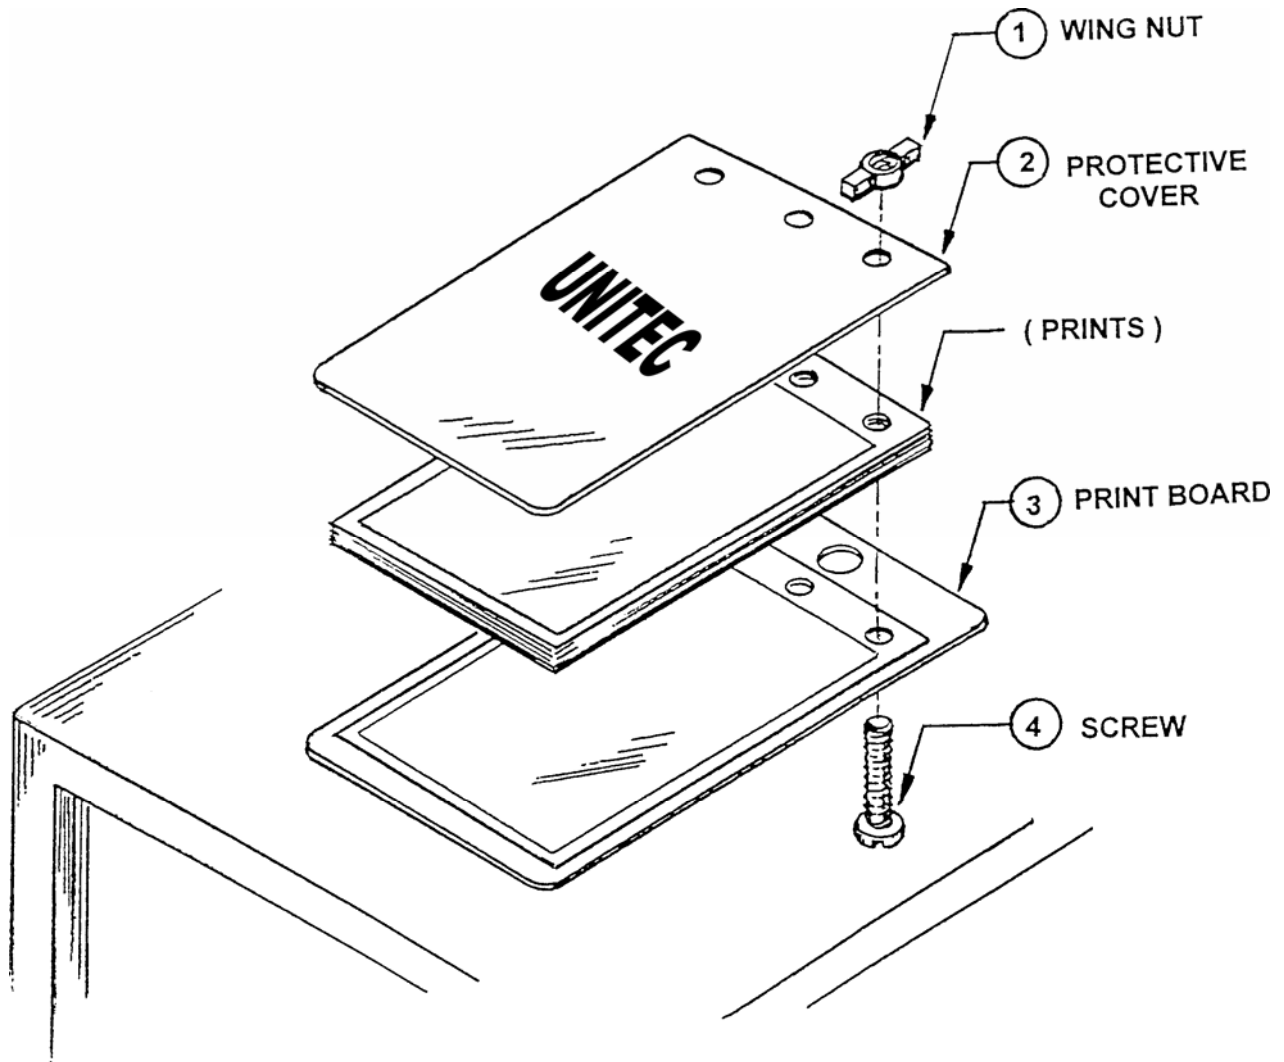

Figure 5: Print Holder Assembly
1. Lay the print board on a flat surface with the screws facing upward (see Figure 5).